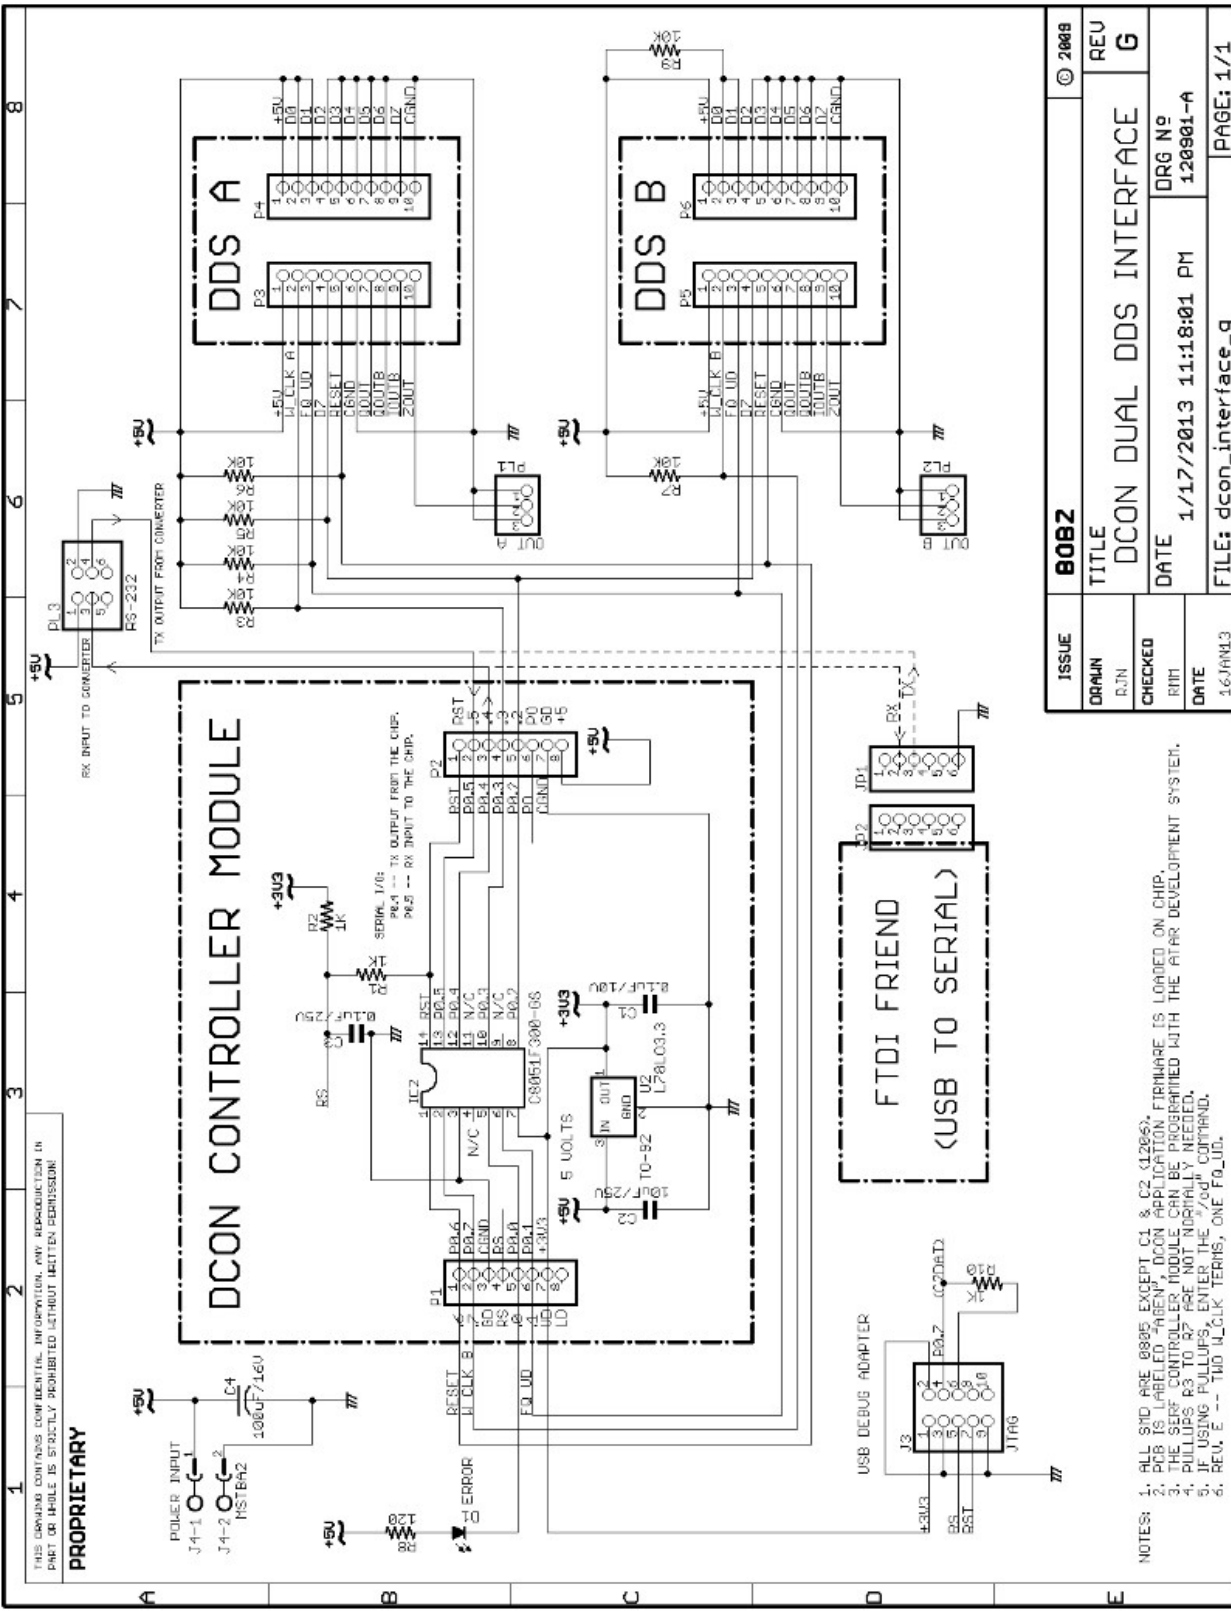
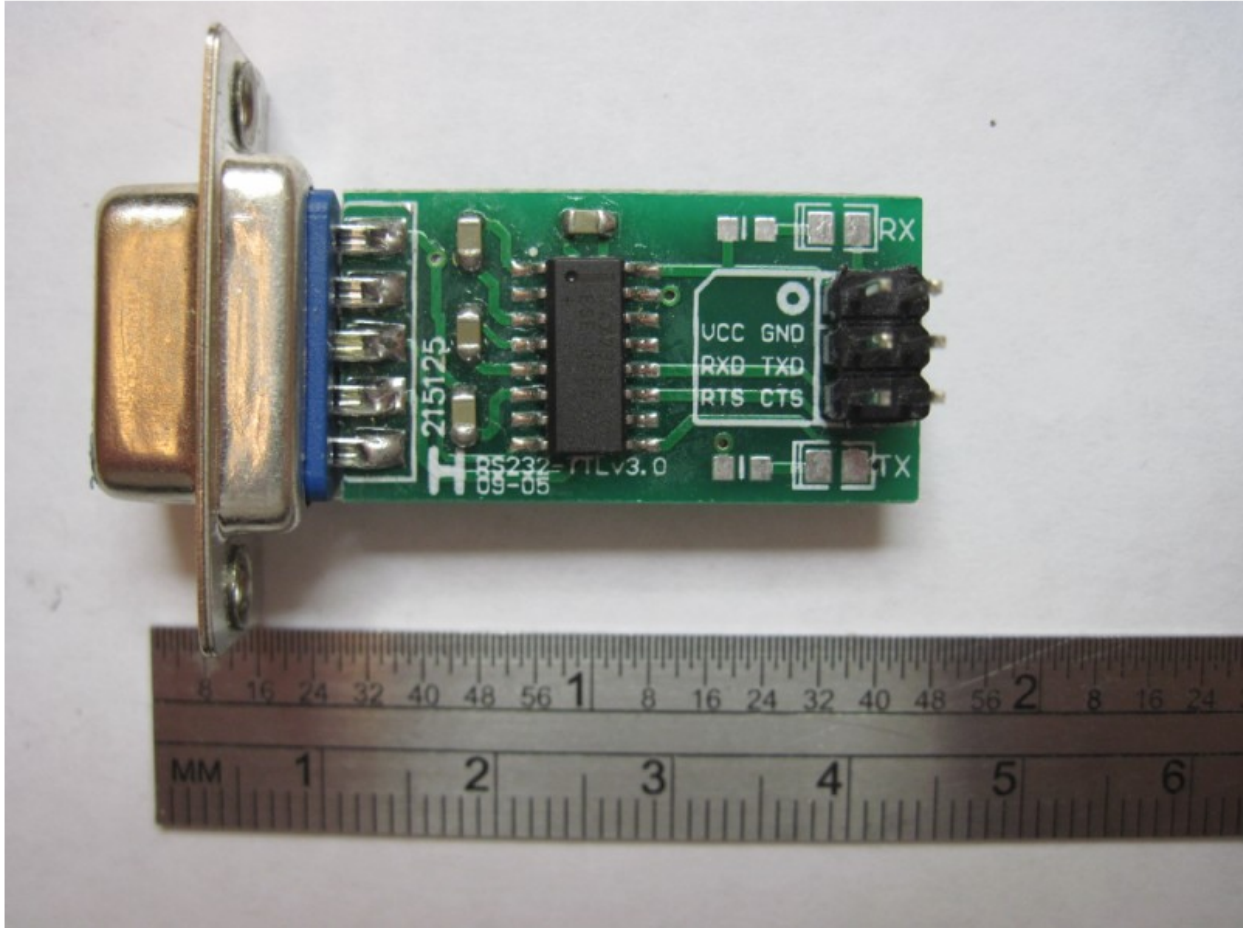

Figure 1 -- Schematic of DCON Dual DDS Interface
Figure 3 -- Inexpensive Serial Adapter from EBay
- Figure 1 -- Schematic of DCON Dual DDS Interface
- Figure 3 -- Inexpensive Serial Adapter from EBay
Figure 1 is a schematic of the DCON dual DDS interface. It shows how the DCON Module connects to two DDS modules and to typical serial interfaces.
In the following, the controller pin numbering follows that shown in Figure 1. Controller connections appear on two stake-pin headers, P1 and P2. Hereafter, pin notation for these connectors is simplified. For example, header P2, pin 7 is denoted "P2/7" and header P1, pin 2 is "P1/2".
Next, connect the module to a serial port. A simple way to do this is to use a USB to serial adapter such as that provided by the "FTDI Friend" from AdaFruit Industries. Connections to the "FTDI Friend" are shown in Figure 1.
This schematic also shows connections to a RS-232 converter commonly available on the internet. Figure 3 shows one of these converters that was purchased for about three dollars. The connections for this adapter are also shown in Figure 1 (see the top center of schematic).
When the power and serial connections are working, wire a DDS module, as shown in Figure 1, to the controller pins. When the DDS connections are completed, attach an oscilloscope to the output of the DDS module, pin 2 of PL1 (labeled "OUT A").